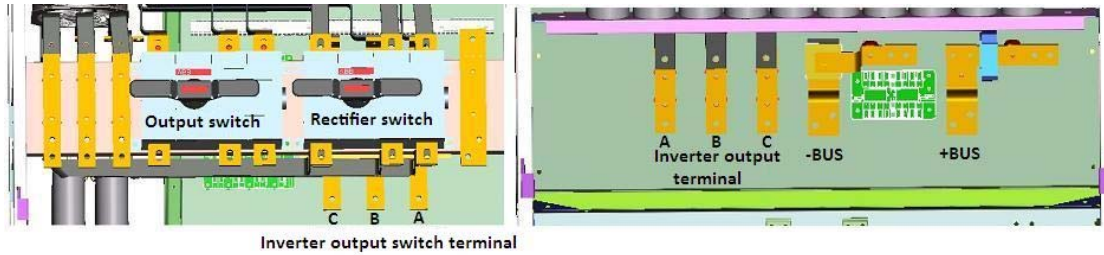

Figure 35: Diagram for inversion connection of 400~600KVA UPS
4. Inverter connection: connect the "inversion switch terminal" of rectifier cabinet with the "inversion output" terminal of inverter cabinet with the given soft copper bars. In connection, the phase sequence should maintain corresponding connection (for example: "Phase A of inversion switch terminal" should be connected with "phase A of inversion output terminal" correspondingly) and the inversion connection is as shown in Figure 35.